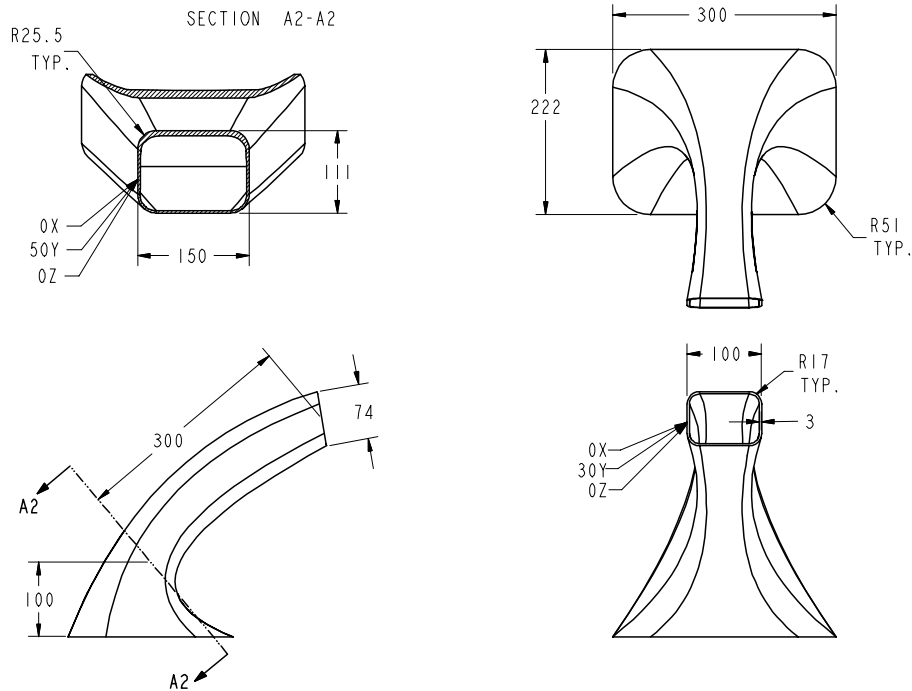
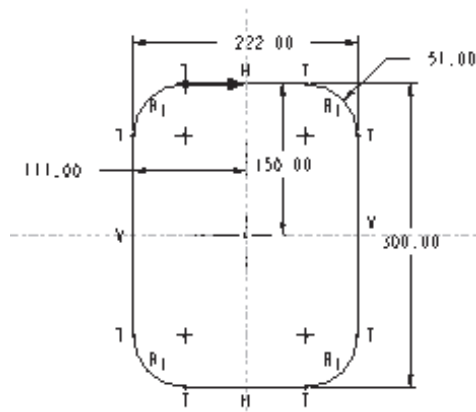
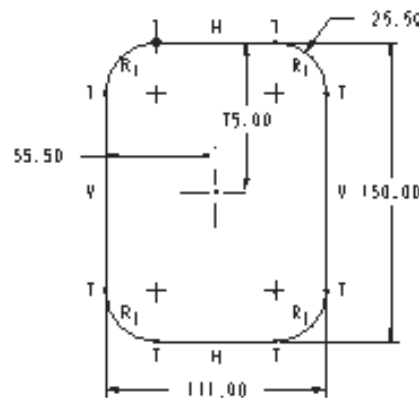
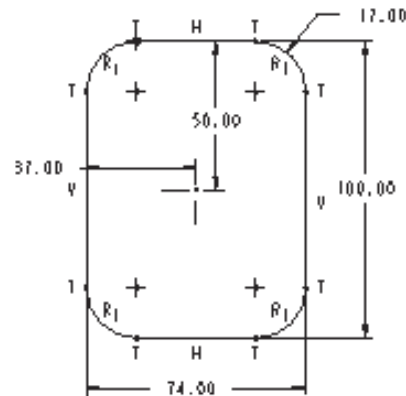

Figure 7-61 Sectioned view, left-side, front, and top views of the model
Figure 7-62 Sketch with dimensions and constraints of section 1
Figure 7-63 Sketch with dimensions and constraints of section 2
Figure 7-64 Sketch with dimensions and constraints of section 3
In this tutorial you will create the model of a tap shown in Figure 7-61. All dimensions for the three sections are shown in the figure. **(Expected time: 30 min)**
- a. First examine the model and determine the number of sections in the blend feature. The model consists of three sections, see Figure 7-61. The first section is the bottom of tap, Figure 7-62. The second section, Figure 7-63, is tilted at 50-degree with respect to y-axis and the third section, Figure 7-64, is further located 30-degree with respect to y-axis.
- b. Select the sketching plane for the blend feature, draw the first section, insert a coordinate system, apply dimensions and constraints, see Figure 7-62 and then continue to the second section.
- c. Draw the second section, insert a coordinate system, apply dimensions and constraints, see Figure 7-63 and then continue to the third section.
- d. Draw the third section, insert a coordinate system, apply dimensions and constraints, see Figure 7-64 and then specify the distance between the sections.
3. Apply constraints and modify the dimensions of the sketch as shown in Figure 7-62.
1. Draw the sketch for the second section, insert a reference coordinate system, apply constraints, and dimension to the sketch and modify the dimensions as shown in Figure 7-63.
1. Draw the sketch for the third section, insert a reference coordinate system, apply constraints, and dimension to the sketch and modify the dimensions as shown in Figure 7-64.